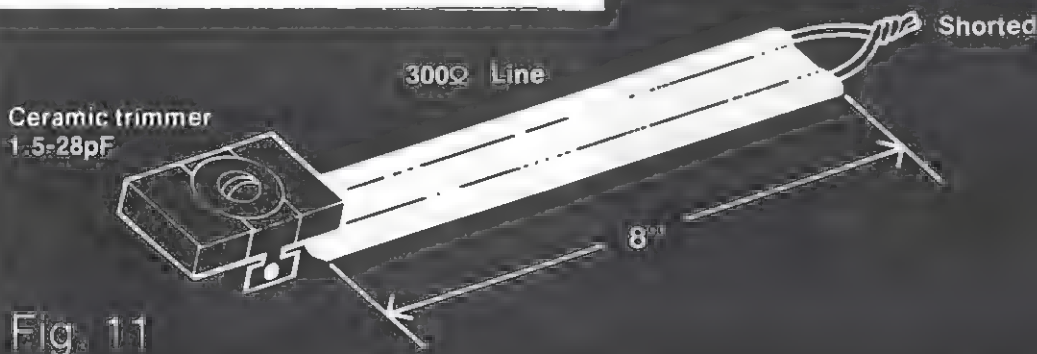

Fig. 11
2. If the installation of an FM band rejection filter is not effective, then a tuned stub trap should be constructed (see example in Figure 11). The trap should be placed on and parallel to the lead-in and tuned for minimum interference. Then slide the trap along the line to further reduce interference. Finally, tape the trap to the lead-in in the most effective position.